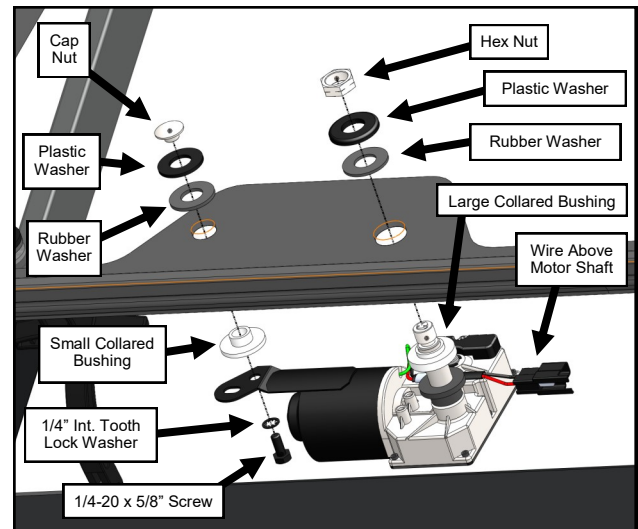

Fig. 11.1 (Wiper Motor)
11.1 Mount the wiper motor to the windshield. See Figure 11.1. Make sure the wires are above the wiper motor shaft to prevent pinching when the windshield moves.